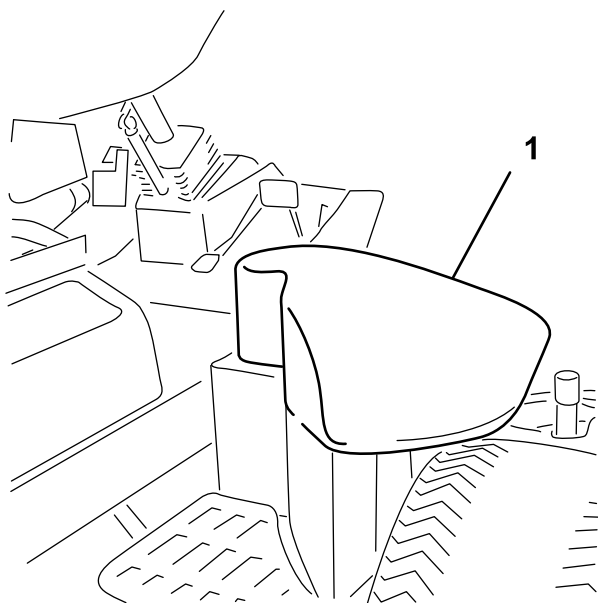

Figure 34
2. On the right side of the machine, raise the hydraulic tank cover (Figure 34).